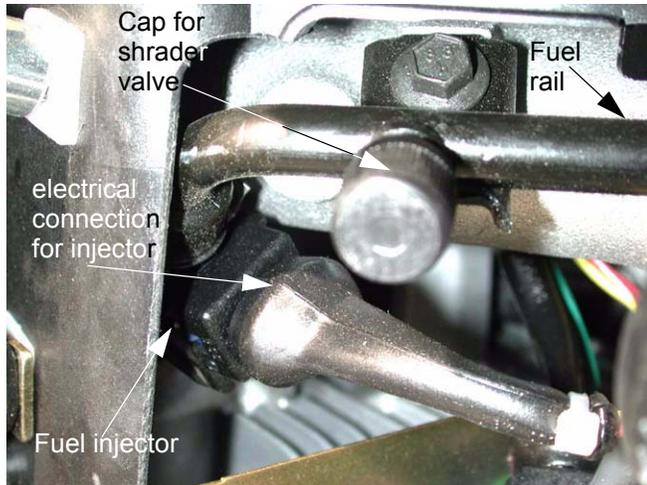

Figure 10.10
10.10. After the filter, the fuel reaches the fuel rail. The fuel rail feeds the injectors. See Figure 10.10.